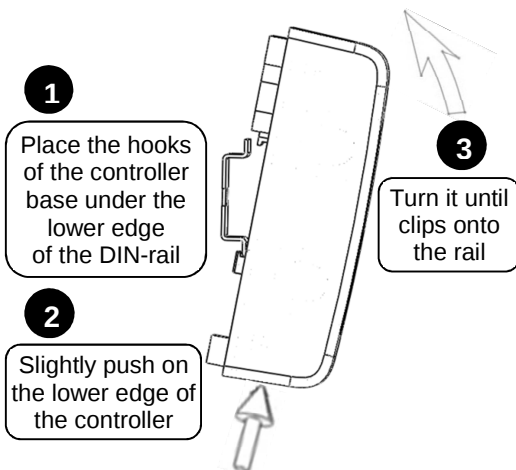

Figure 3. Mounting the Controller on a DIN-rail
3.3.2 Install the controller on the DIN-rail as shown in Figure 3.